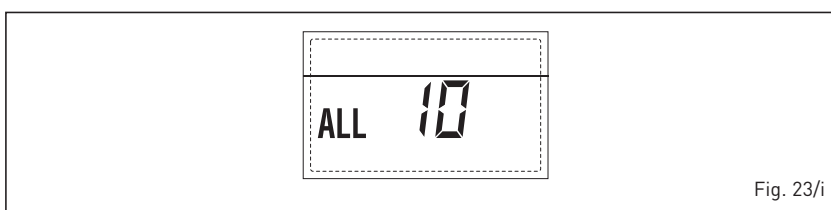

Fig. 23/i
**- ACTIVATION OF THE EXHAUST TEMPERATURE SENSOR "ALL 13" (fig. 23/j)**